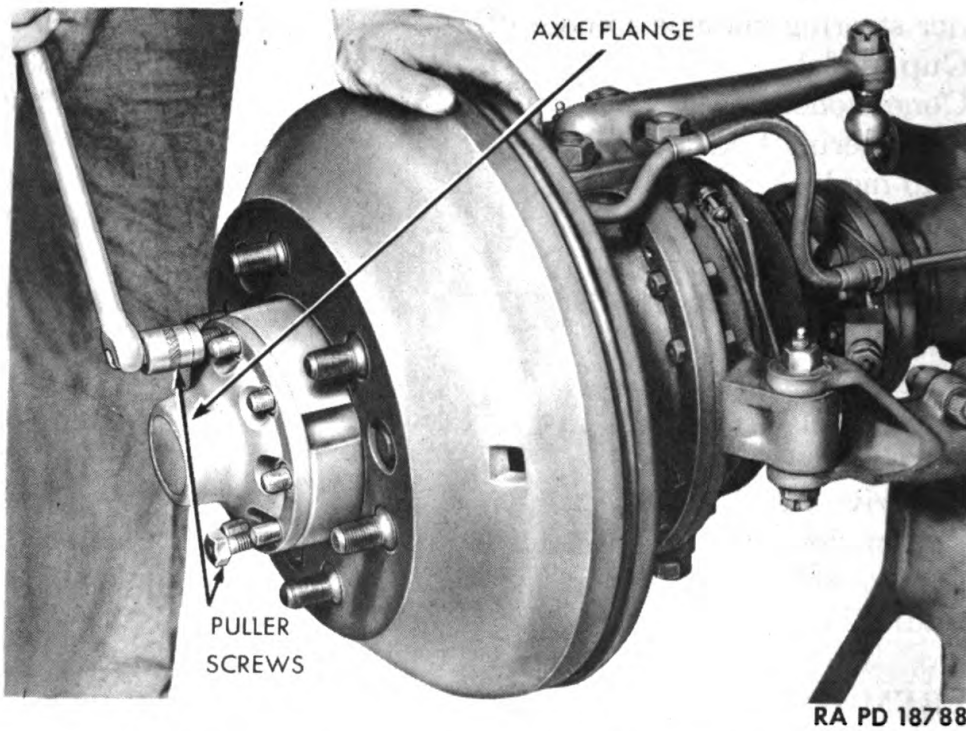
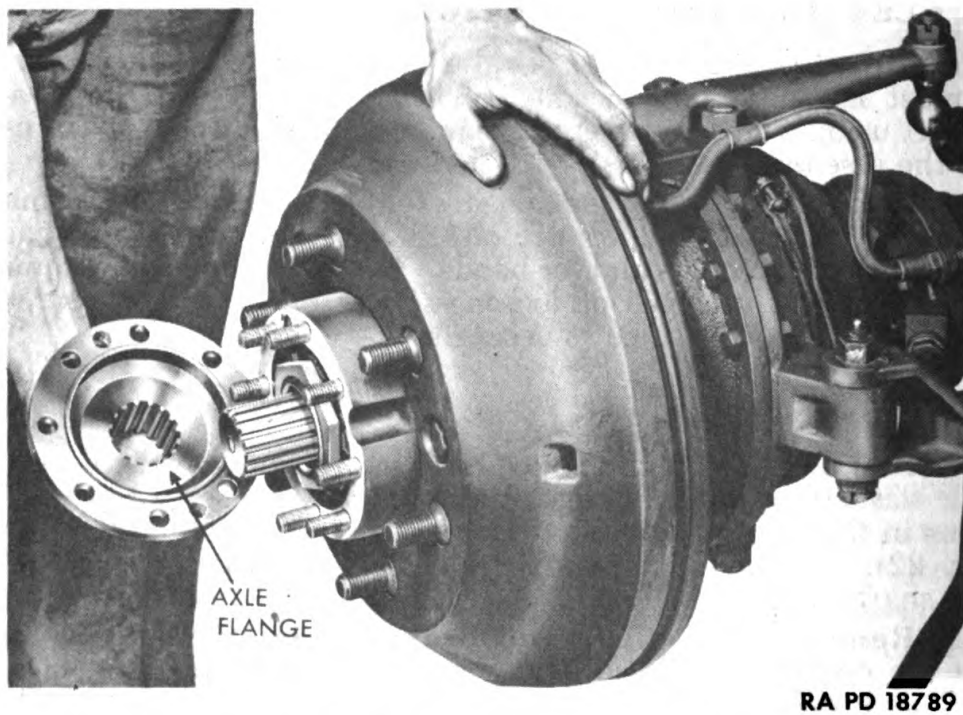

Figure 22 — Removing Axle Shaft Drive Flange
Figure 23 — Axle Shaft Drive Flange — Removed
a. **Remove Axle Shaft Drive Flange.** Remove eight nuts and lock washers from axle flange studs. Insert two screws in tapped holes in flange, and screw into flange to serve as puller for flange (fig. 22). Remove axle shaft drive flange and gasket from hub and shaft (fig. 23).